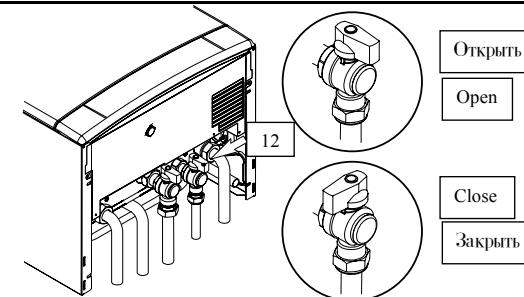
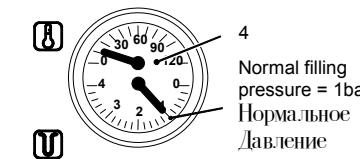

Fig. 2.1
Fig. 2.2
Ensure that the c.h. circuit is regularly filled with water (even if the boiler is only used for d.h.w. supply) checking that the pressure indicated on the temperature and pressure gauge 4 is not lower than that shown in Fig. 2.2.
If the pressure reading on the pressure gauge is below that shown in Fig. 2.2, then the system will require topping up. A filling loop is normally provided by the installer for this purpose.
- Open the c.h. circuit filling valve 12 (Fig. 2.1) until the pressure reaches the normal filling pressure as shown in Fig. 2.2.
- Откройте кран заполнения системы отопления 12 (рис.2.1) и закройте, когда давление достигнет значения, указанного на рис.2.2.